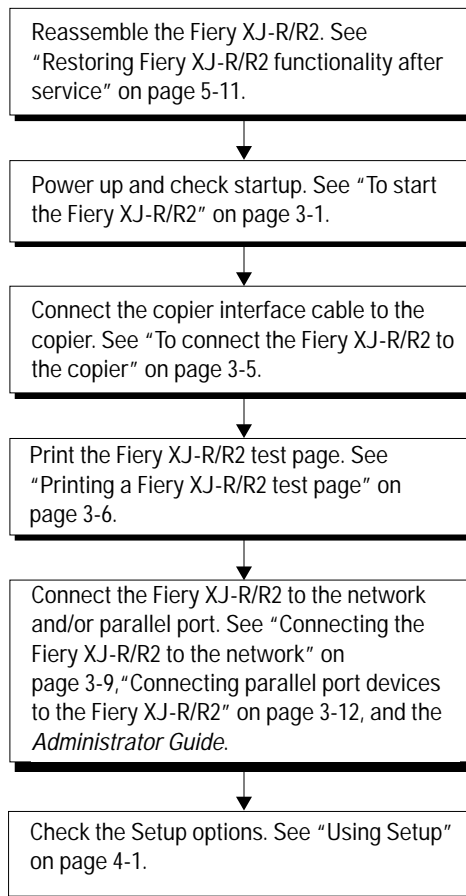

Figure 5-8 Fiery XJ-R/R2 connection verification steps
5. **Before you leave the customer site, verify Fiery XJ-R/R2 operation as outlined in Figure 5-8.**